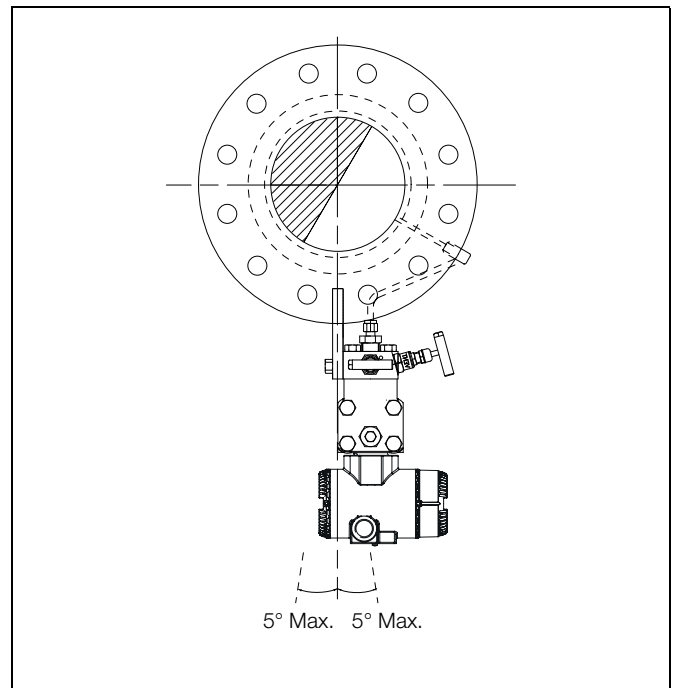

Fig. 2.4 Horizontal Pipe Mounting – Liquid Steam Applications
Install the meter as shown In Fig. 2.4.
- for horizontal pipe mounting – steam, refer to Fig. 2.4.